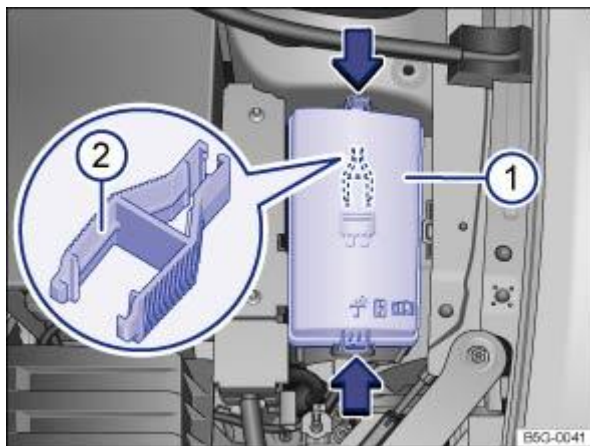

Fig. 172 In the engine compartment: cover ① of fuse box with plastic pliers ②.
🔧 Press the release buttons in the direction of the arrow ⇒ Fig. 172 ① to release the fuse box cover.
In some vehicles, there is a pair of plastic pliers ⇒ Fig. 172 ② for removing fuses on the inside of the cover of the fuse box in the engine compartment.